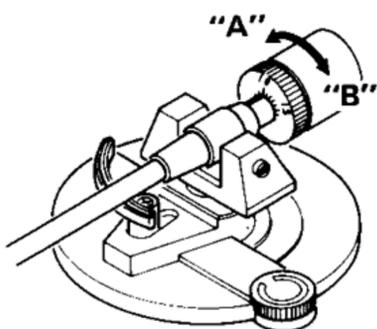

Fig. 5 Abb. 5
3. Slide the counterweight to the middle of the weight shaft and turn until the tonearm is balanced with the stylus position nearly touching the record surface. (Fig. 5)